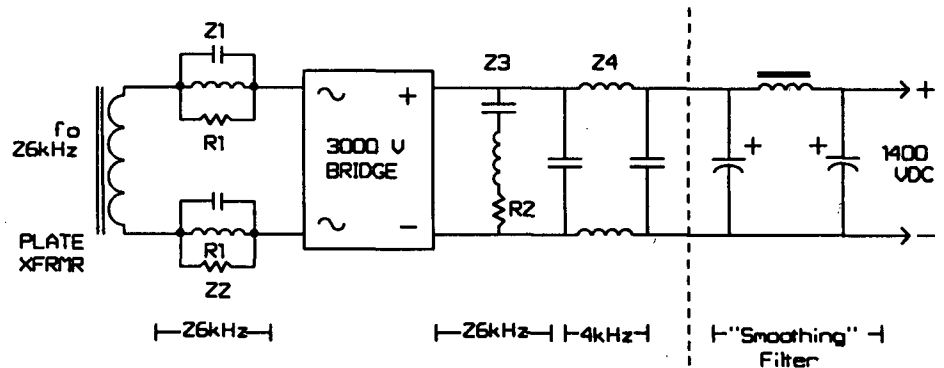

Figure 1: Primary Components of Diode Suppression Network
The resulting suppression circuitry is shown in Fig 1. Parallel resonant RLC circuits Z1 and Z2 are high impedance traps that dissipate 26 kHz energy in the parallel resistor. The inductance (L) and capacity (C) of this circuit is determined from the formula: